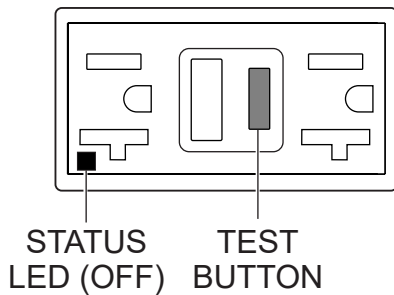

Figure 78. GFCI Receptacle (OFF)
4. Press the **TEST button** (Figure 78) on the GFCI receptacle and verify that the status LED turns **OFF**.